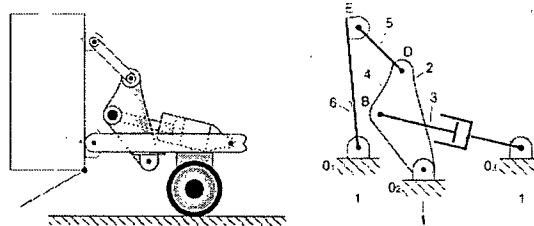

Figure 1
- 5 *Figure.1* shows a Dump truck mechanism and its skeleton sketch. Correct the mistake in the naming of the links and determine the mobility (DOF) using Grubler's criterion for planar mechanism.